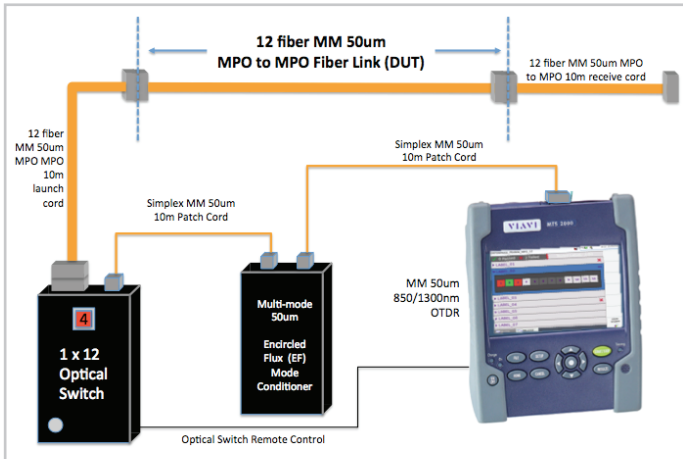

Figure 6. MPO Link Test Setup for faster testing
- a. An EF mode conditioner device can be inserted during testing between the OTDR (or other test source) and the fiber under test. This device conditions the launch signal for EF compliance before the test signal enters the fiber under test (see Figure 6 later in this document). When paired with an external mode conditioner, the T-BERD/MTS-2000 or -4000 allows any 50um multimode test source to provide testing results that comply with the new EF standards.